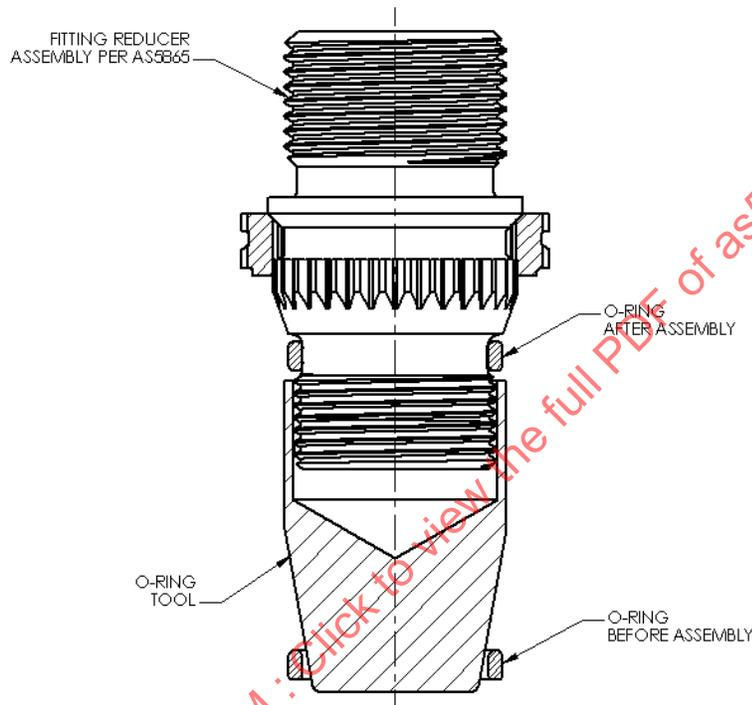

FIGURE 7 - O-ring Installation
- 7.1.1 Place the O-ring (per Table 2A) over the port end thread of the fitting reducer assembly. Submerge the O-ring tool and O-ring in the fluid to be used in the working system, or a lubricant compatible with the system fluid and all components. Slide the O-ring over the O-ring tool and onto the fitting reducer assembly. Be sure that the O-ring is not twisted and is properly seated in the groove of the fitting reducer assembly. See Figure 7.